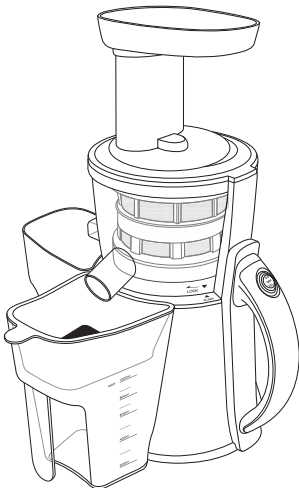

Figure 5
5. Place the juice container under the circular juice spout and the pulp container under the rectangular pulp spout – figure 5.